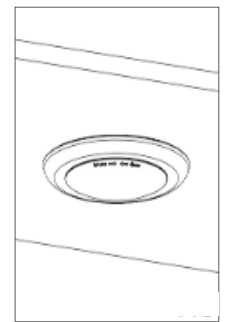

FIGURE 7
E) Installation complete. (Figure 7)